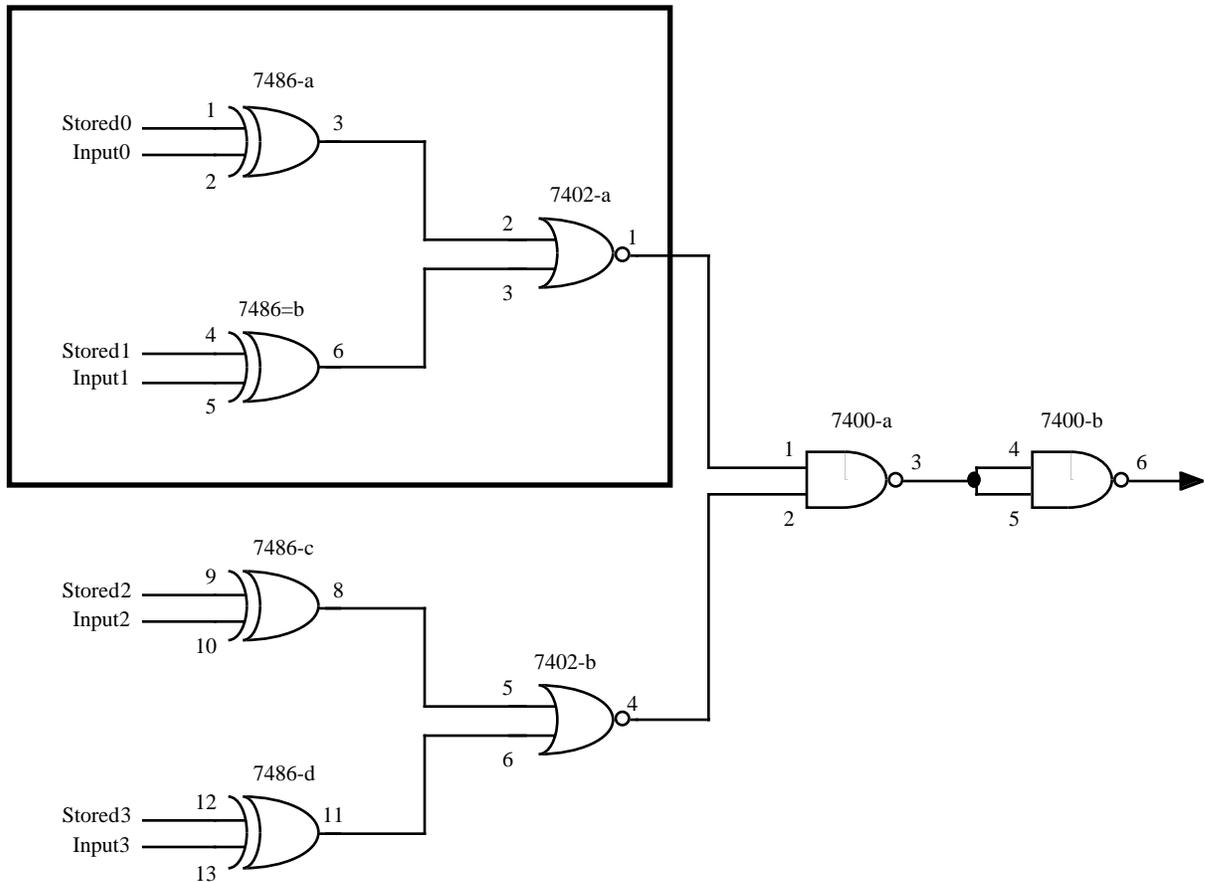

Figure 16. Combinational logic to compare two numbers.
The easiest part of the programmable digital lock to understand is the comparator. Its function is to compare a four digit binary number input by the user with the four bit binary number stored in the D-latch. When the two numbers are identical the lock will operate - in the Electronics Workbench simulation this will operate an LED and a buzzer at the output of the combinational logic shown in Figure 16. The operation of the combinational logic shown in Figure 16 is actually quite simple. The four XOR gates perform the actual comparison; they output a logical zero when then two input numbers are identical. The 7402's and 7400-a function as a AND gate. When the outputs of all XOR gates are zero indicating that the input numbers are identical, the 7402's and the 7400 will produce a high output which can be used to operate an indicator or other electrical device.
8. Pin 1 (OE*) should remain connected to ground; however, now connect pin 11 (LE) to ground. Keeping the power on to the chip and without changing either pin 1 or 11 generate all possible D1 and D2 combinations. Measure the input voltages D1 and D2 and the output voltages Q1 and Q2 for each combination. Record your measurements for D1, D2, Q1 and Q2 in Data Table 4.
9. Now, connect pin 1 (OE*) to +5 volts through a 10k Ω resistor and pin 11 (LE) to +5 volts through a 10k Ω resistor. Keeping the power on to the chip and without changing either pin 1 or 11 generate all possible D1 and D2 combinations using your data input circuit. Measure the input voltages D1 and D2 and the output voltages Q1 and Q2 for each combination. Record your measurements for D1, D2, Q1 and Q2 in Data Table 5.
10. Build the part of Figure 16 shown in the box which consists of 7486-a, 7486-b, and 7402-a. Remember to connect pin 7 of each chip to ground and pin 14 to +5 volts. Use the data input circuit to alternately connect Stored0, Input0, Stored1, and Input 1 to +5 volts or ground. Measure the output at pin 1 of the 7402. Record your measurements in Data Table 6. **IF YOU ARE RUNNING SHORT OF TIME YOU DO NOT NEED TO RECORD ALL THE COMBINATIONS — CHECK WITH A TA.**
Data Table 6. Truth Table for Boxed Logic of Figure 16.